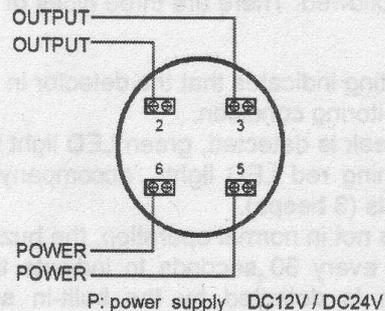

Figure 3
Figure 3 shows the wiring diagram for GD-518 series gas detectors(only GD518-R have relay output).
- (1) All the wires in the base compartment should be flattened and are not touched to any connectors to ensure that the detector head be smoothly fastened to the base.
- (2) When using the jump wires to check the connectivity for each gas detector in the circuit loop (e.g. connecting point 2 and point 3 with a jump wire as shown in Figure 3), be sure to remove all the jump wires before attaching the detector head onto the base.
- (3) Be sure that the components used in the circuit loop as shown in Figure 3 should be coupled up with those components used in the transceiver circuitry of the control panel.
- (4) The base is allowed to be installed within an available wiring box including octagon box (3", 3.5", or 4"), circular box (3") and rectangular box (4" long), without using any other additional mechanical adapters.